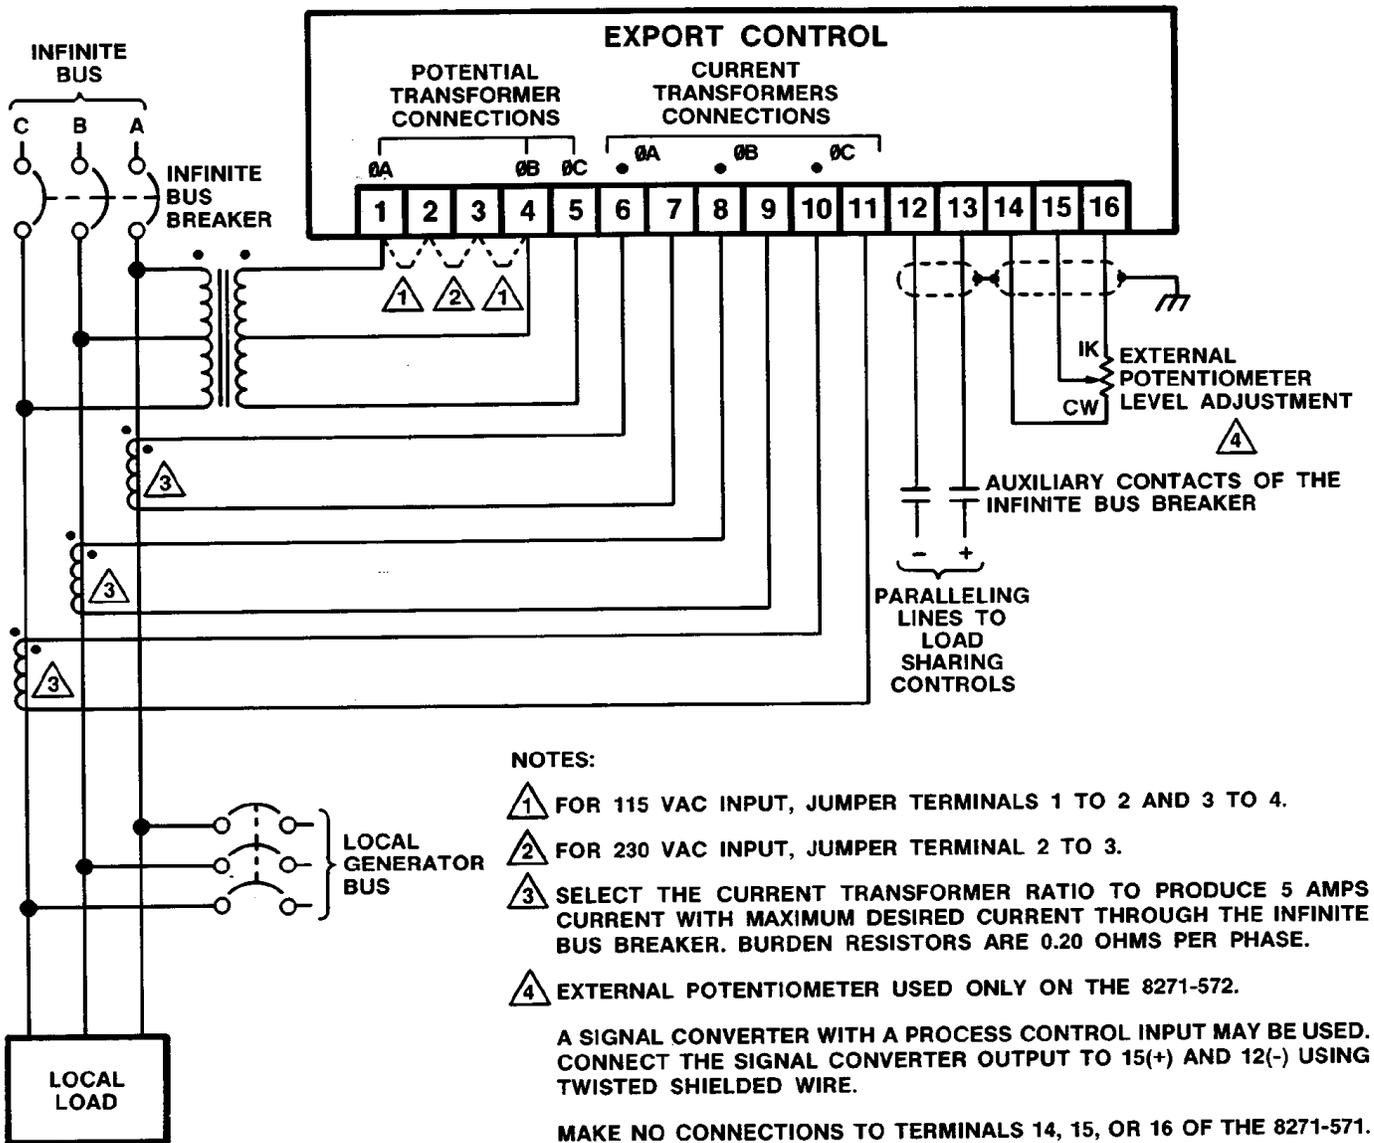

Figure 2-2. Typical Wiring Diagram
Figure 2-2 provides typical wiring instructions, however, a plant wiring diagram for your specific control part number must be used for actual installation.
The 8271-572 is for external level setting in either of two ways: (1) A potentiometer or motor operated potentiometer is wired as shown in Figure 2-2, or (2) an external controller or transducer may be used to program the desired power level. In the latter case, the user supplied device provides an input to a Woodward signal converter. The signal converter output is connected to the Export Control terminals 12(-) and 15(+). In both cases twisted, shielded wire should be used.
If the 8271-572 is used, install a 1 kΩ level potentiometer as shown in Figure 2-2. If the power level is to be controlled by a transducer and signal converter, the 1 kΩ potentiometer will be replaced after the Installation Check.